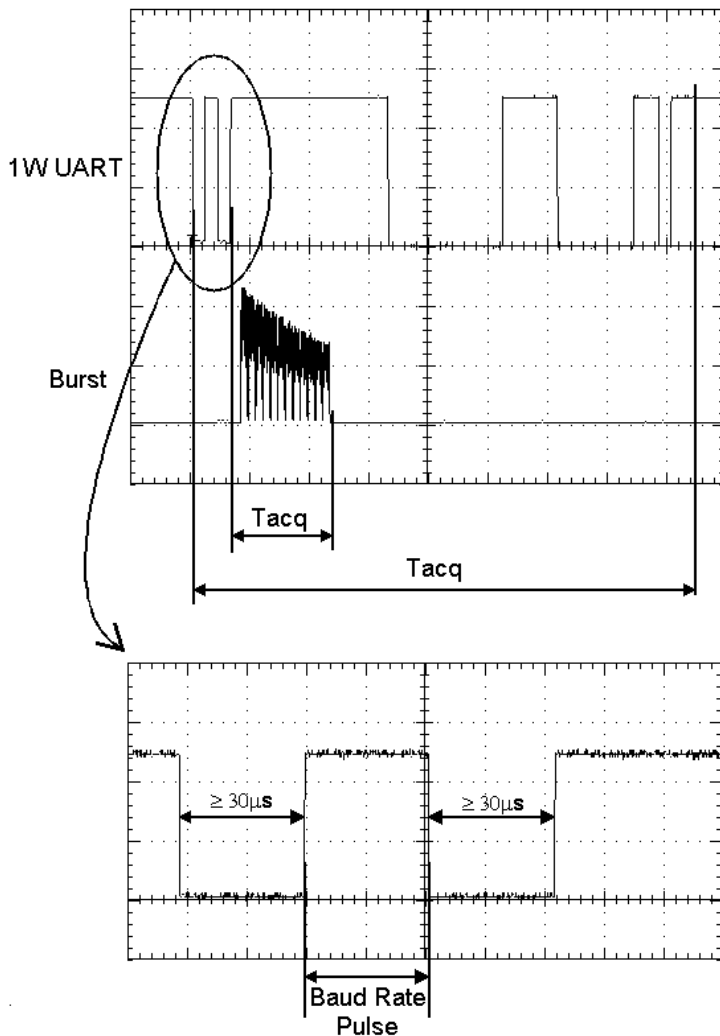

Figure 4-1 UART and Trigger Pulse Signal.
- 1) The host generates a pulse on the 1W pin; the pulse width must match the Baud rate (bit width) of the expected return Baud rate from the QT300. This pulse actually sets the Baud rate each time, and so it can vary from one acquire to another. See Section 4.3 and Figure 4-1.
The part wakes from low power mode when the first negative edge is detected on the 1W pin (Figure 4-1, bottom). The negative pulse must be at least 30µs wide.